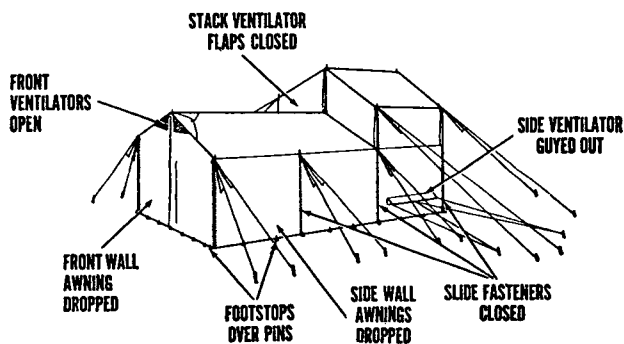

Figure 43. Closing tent, kitchen, flyproof, M-1948, for blackout.
(8) *Closing tent for blackout (fig 43).* Remove awning poles. Drop awnings and close slide fasteners. Place footstops over the same pins that are used for the screens. Close top stack section ventilator flaps. Make sure that top front service section ventilator flaps are open. Tie lines of bottom stack section ventila-